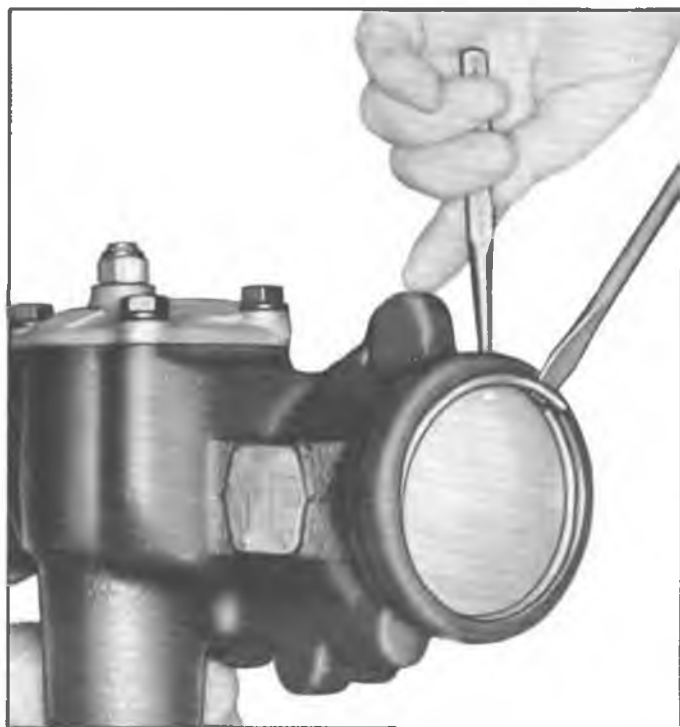

Fig. 32—Removing End Cover Retaining Ring
1. Rotate end cover retainer ring so that one end of the ring is over hole in side of housing then force end of ring from its groove and remove ring (fig. 32).